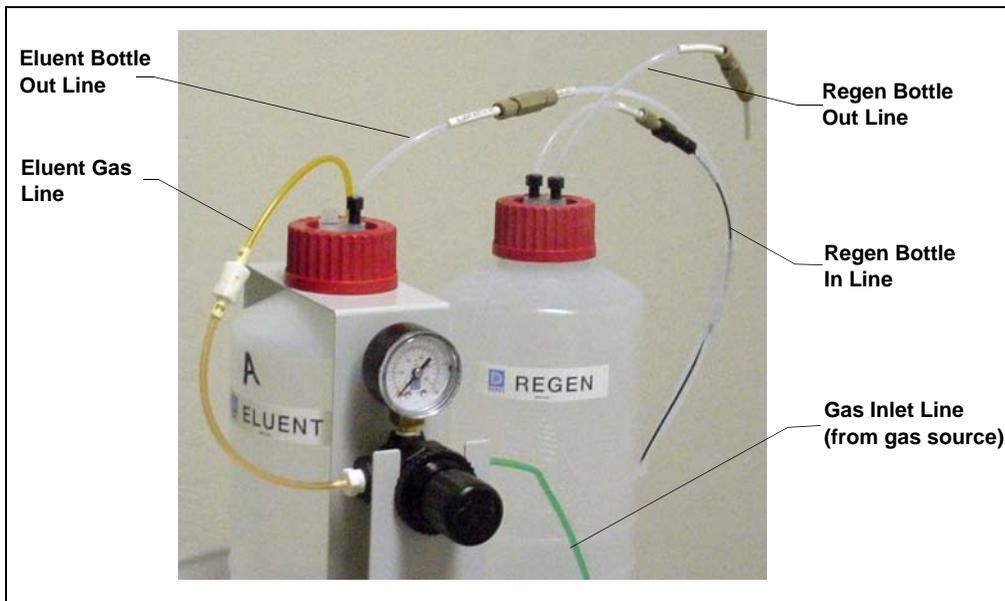

Figure 2-15. Reservoir Connections
8. Connect the liquid lines from the ICS-90 to the lines exiting the eluent and regenerant reservoir caps (see Figure 2-15) as follows: